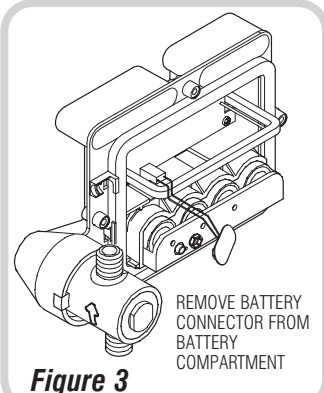

Figure 3
Step 2 — Remove Cover and Battery Compartment from Control Module (Figures 3 & 4)